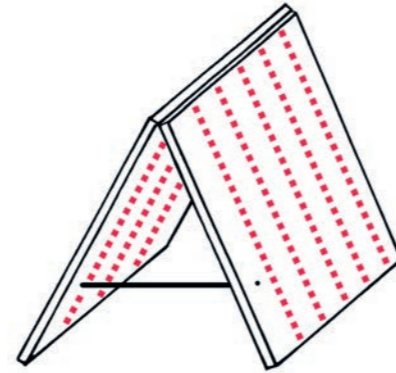

Figure 11
- Copy Figure 11. Show on the drawing in which direction the corrugations should go to make the strongest supports for your table.